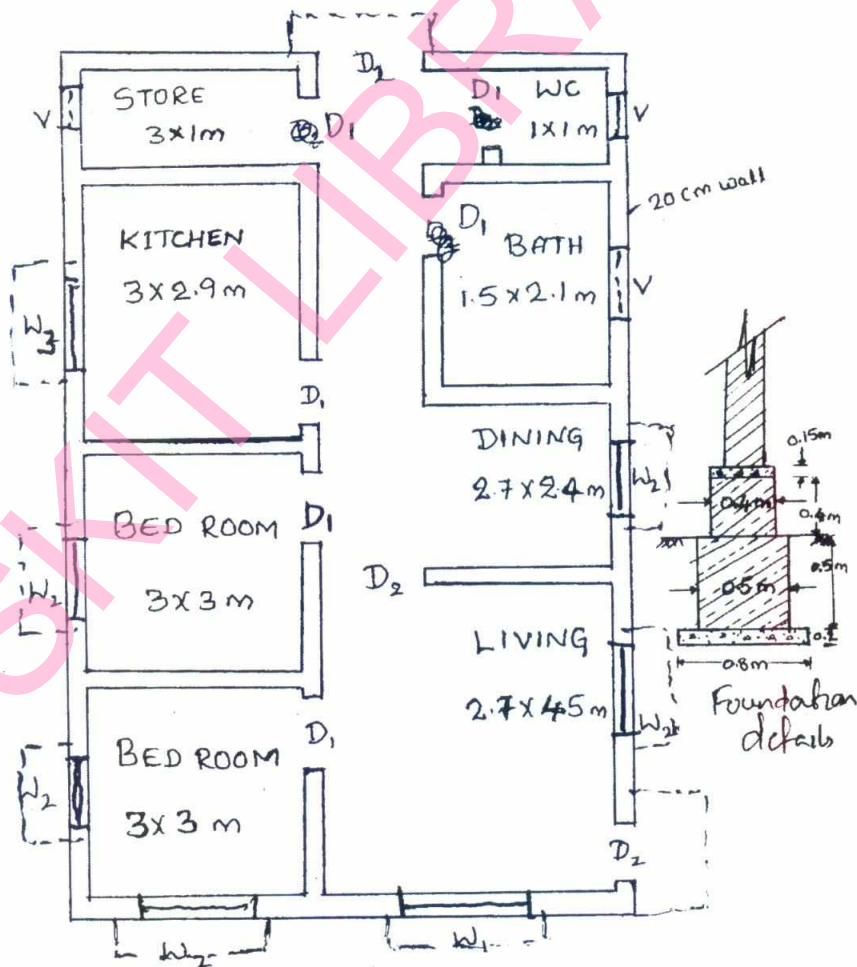

Fig. Q1(a)
- 1 The Fig. Q1(a) shows the detail of a residential building with a ceiling height of 3.5m. Workout the quantities for following items.